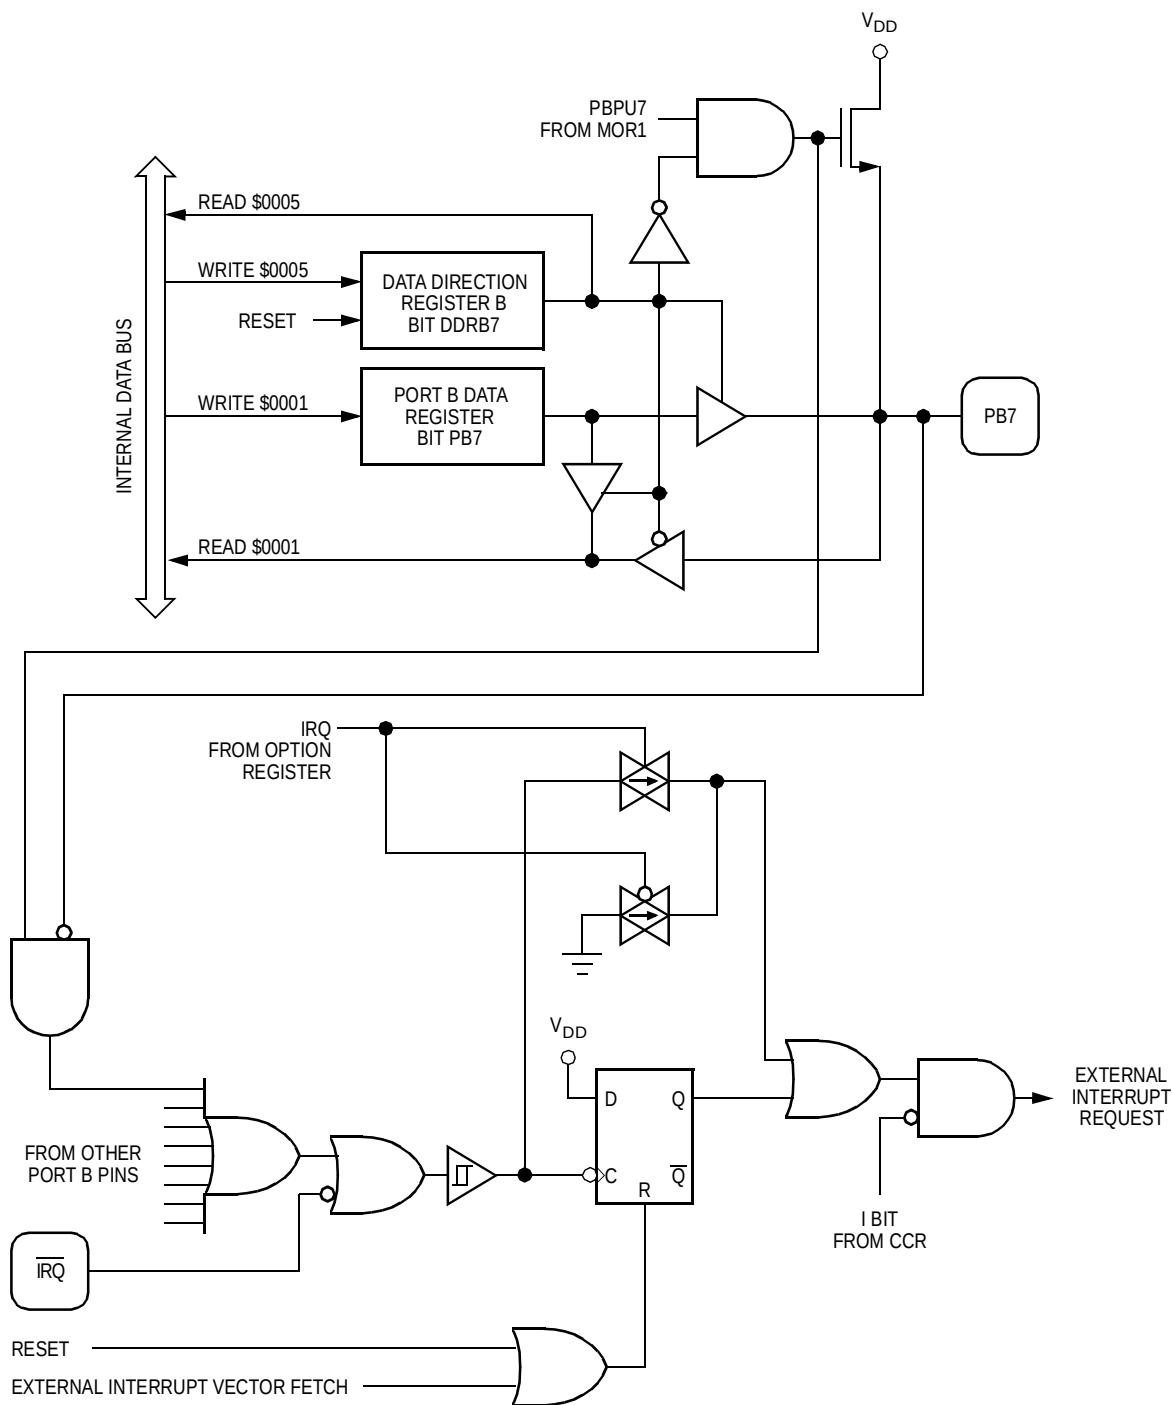

Figure 4-3. Port B I/O Logic
**Figure 4-3** shows the port B input/output (I/O) logic.